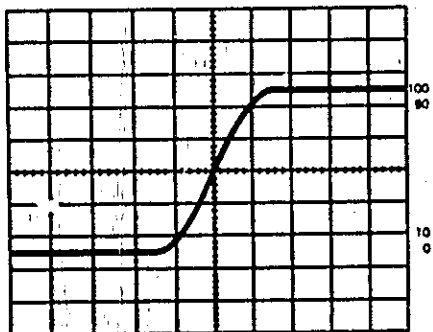

Figure 3-11. Pulse Jitter Eliminated
3-37. Eliminating Jitter. Jitter can be eliminated from the display by using the SWEEP AFTER DELAY TRIG control (2). In this mode, the delayed sweep is triggered on the jittering pulse after the delay interval. So by triggering the delayed sweep after the delay period, the effect of jitter on the display is eliminated, and pulse parameters can be measured. Remember, in this mode the DELAY (15) dial is uncalibrated (figure 3-11).